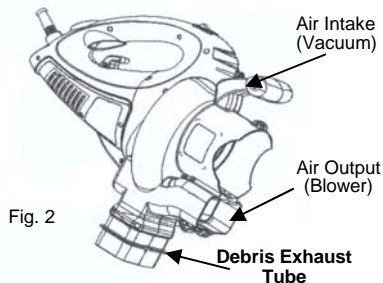

Fig. 2
6. Insert the two (2) self-tapping screws into the holes on either side of the blower outlet housing. (Fig. 2)
2. Slide the vacuum bag over the debris exhaust tube on the housing. (Fig. 2)